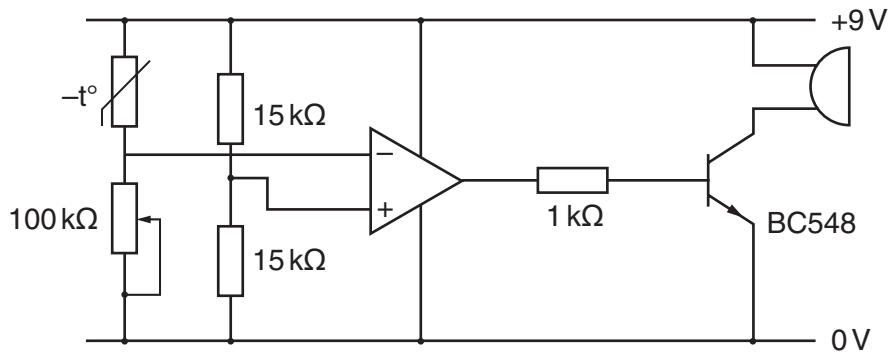

Fig. 9
- 4 The glasshouse has a frost alarm installed to alert the gardener to the danger of low temperature to the plants. Fig. 9 shows a diagram for an incomplete circuit for a frost alarm.
- (a) (i) Draw a $1\text{ M}\Omega$ feedback resistor on the circuit diagram in Fig. 9. [2]